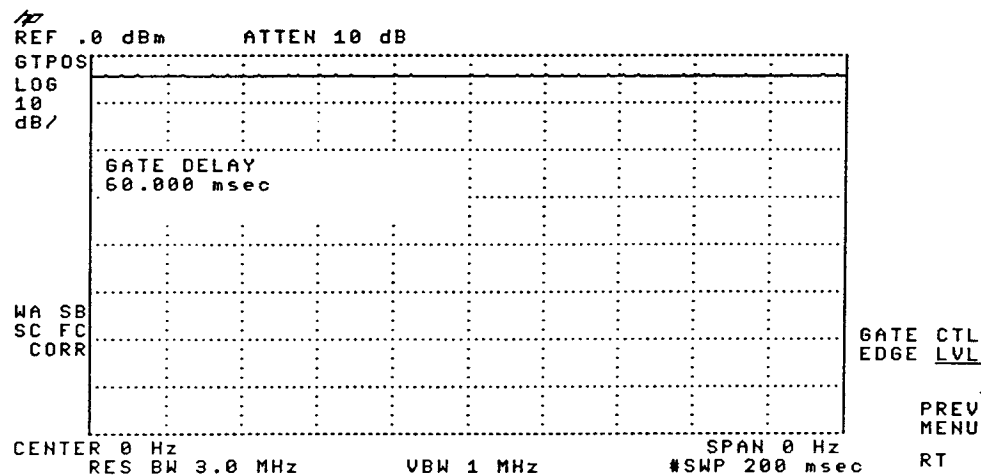

Figure 2-54. Using the Level Gate Control
4. To check the gate control function, press **[SWEEP]**, **GATE MENU**, **GATE CTL EDGE LVL** so that LVL (level) is underlined. (See Figure 2-54.)